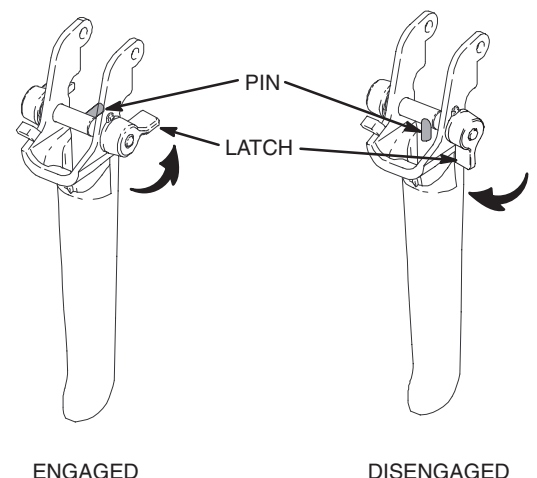

Fig. 1
1. To engage the gun trigger safety, turn the latch counterclockwise toward the handle until the detent of the latch locks on and the pin is at a right angle with the gun body. See Fig. 1.
3. Follow the **Pressure Relief Procedure** on page 5. Be sure the gun trigger safety is engaged. See Fig. 1.